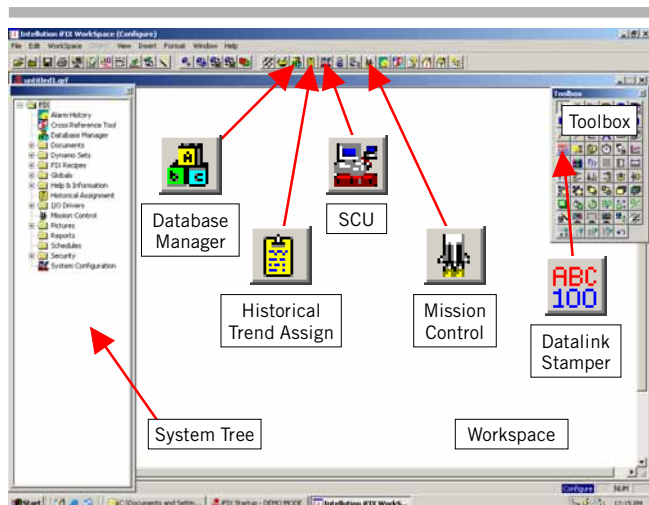
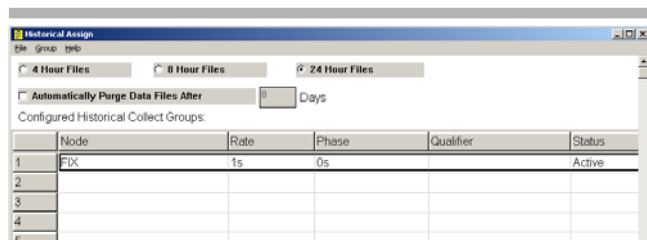
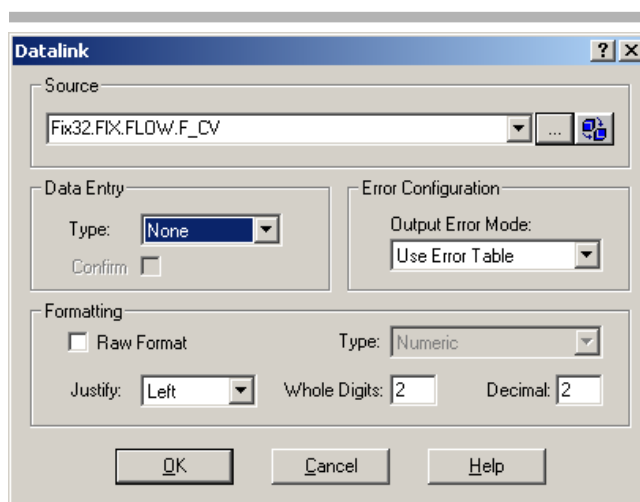

Fig 1.
Fig 8.
Fig 10.
- 1.1 Launch iFIX 3.0 program (Fig 1).
- 1.5 Double click “**OPC**” in the PLC symbol (Fig 1) and the text OPC will appear underneath “SIM” after step 1.4 is completed.
- 3.1 Click Database Manager icon (Fig 1).
- 4.1 From Main menu click “Historical Trend Assign” icon (Fig 1). This will open Historical Assign screen (Fig 8). Check the “**X Hour Files**” box to select the duration of file to be recorded. In this example we select **24 Hour Files**.
- 4.11 To begin storing data, click the **Mission Control** icon (Fig 1).
- 5.1 From System Tree (Fig 1) right click **Pictures → New Picture → Finish**. This will open a new Workspace.
- 5.2 From Toolbox, click **Datalink Stamper** icon (Fig 1), to open the Datalink windows (Fig 10).
- 5.8 Fill in the Whole Digits and Decimal boxes and click **OK** (Fig 10).
- 5.12 Similarly, to animate a valves, pipes, pump, etc, select the predefine animated object from the **Dynamo Sets** folder in the **System Tree** (Fig 1).